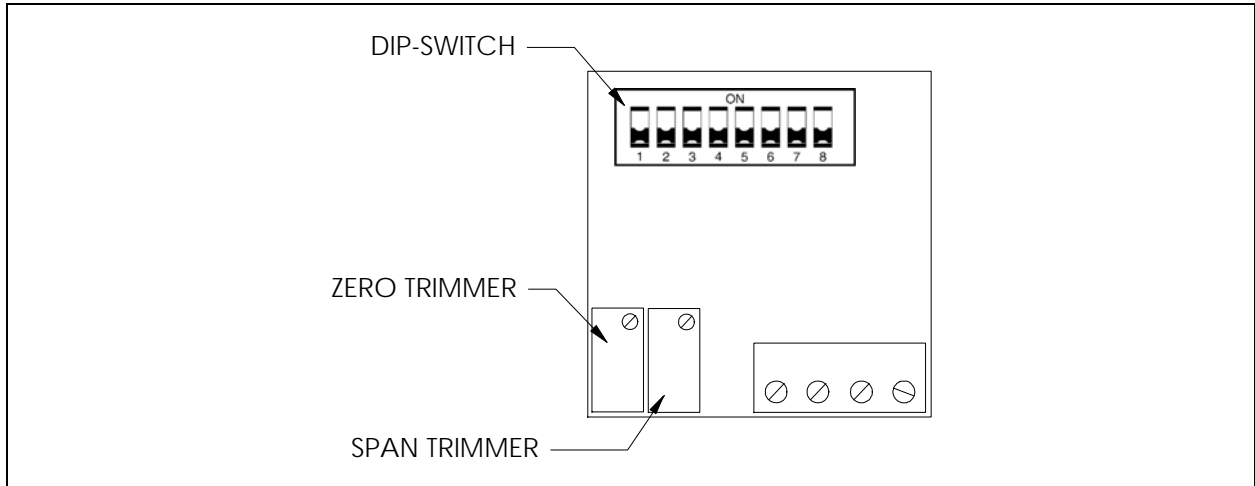

Figure 5-6 Back View of Gas Concentration Display
The display needs to be configured to the required gas range. On the back side of the display, there are 8 DIP-switches (Figure 5-6). The first 4 switches control the range and 6, 7 and 8 controls the placement of the decimal point (switch 5 is not used). In Table 5-7 below, common gas ranges are listed with the corresponding DIP-switch selection. For decimal point placement, only one of the switches (6, 7 and 8) can be ON at once. The selected gas range must be calibrated to display accurate values by adjusting the Zero and Span trimmers (Figure 5-6). A test transmitter with 4-20mA output is required to simulate zero and full scale outputs. Follow the steps below for proper setup.
2. Set Zero and Span trimmers fully clockwise, refer to Figure 5-6